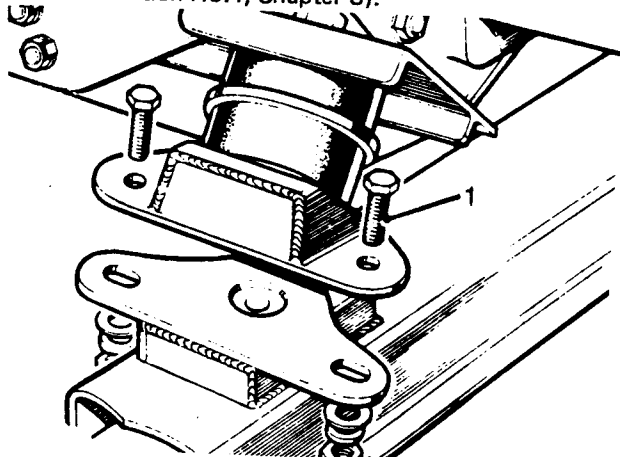

Fig H1.8
- (6) Refer to Fig H1.8. Replace the fixings (1) for the two rear mountings for the gearbox.
- (7) Reconnect the speedometer cable (see Sub-sub-section H1.3, Chapter 19).